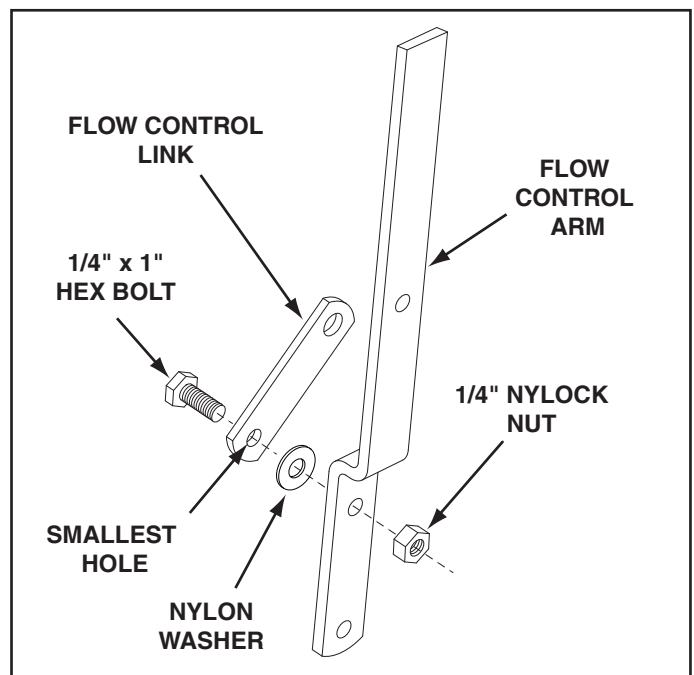

FIGURE 7
14. Assemble the flow control link (end with small hole) to the flow control arm using a 1/4" x 1" hex bolt, a nylon washer and a 1/4" nylock nut as shown in figure 7. **Tighten carefully.** The flow control link should not be loose but should pivot with no more than slight resistance.